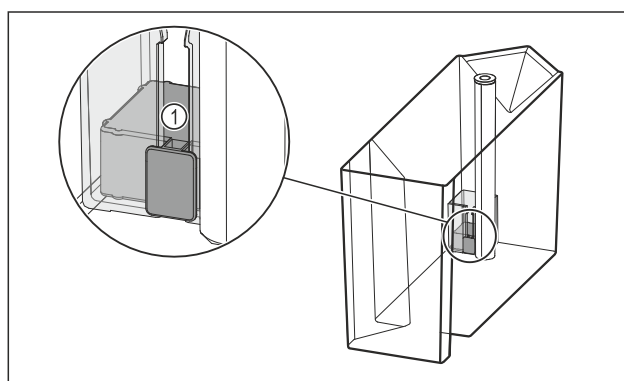

Fig. 116
- ▶ Check whether the float Fig. 116 (1) is jammed.